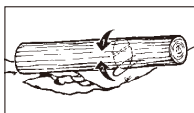

Fig. 13C
3. Log supported on both ends: First, overbuck 1/3 diameter of log to avoid splintering. Second, underbuck to meet first cut and avoid pinching (Fig. 13C).